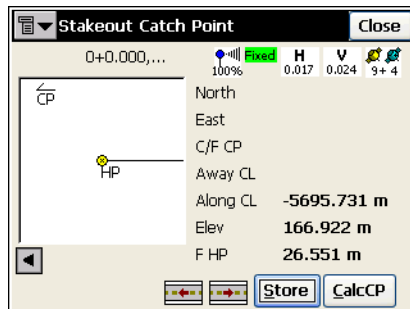

Figure 7-40. Stakeout Catch Point
- For GPS+: use the information on the *Stakeout Catch Point* screen for finding the target. Tap **Store** after the position is close enough to the desired point. Tap the  /  button to retreat / advance the station by the specified Station Interval, for staking out at the previous / next station, respectively (Figure 7-40).